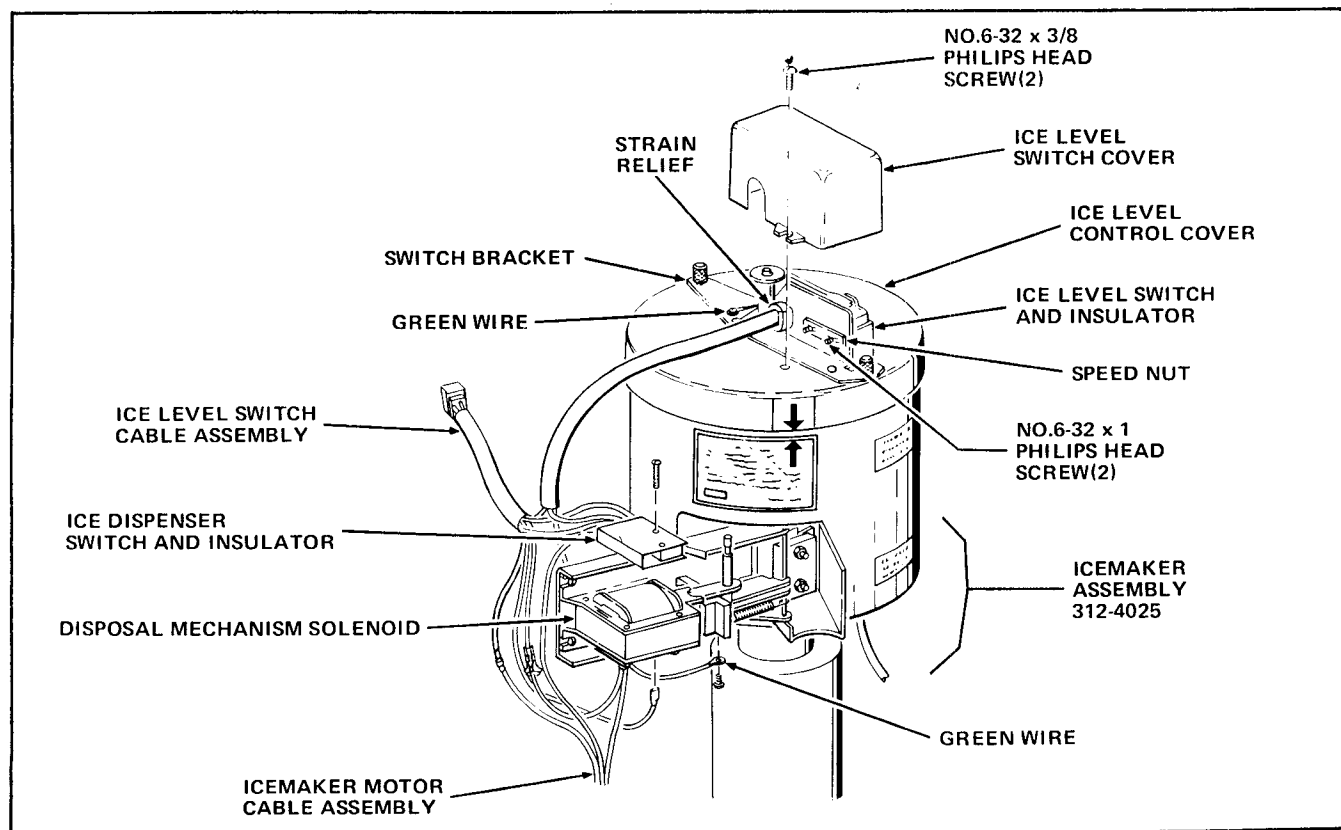

FIGURE III-2
1. Remove the 2 No.6-32 x 3/8" Philips Head Screws which attach the Ice Level Switch Cover to the Ice Level Control Cover on the replacement Icemaker Assembly, Part Number 312-4025, included in the Kit. See Figure III-2.